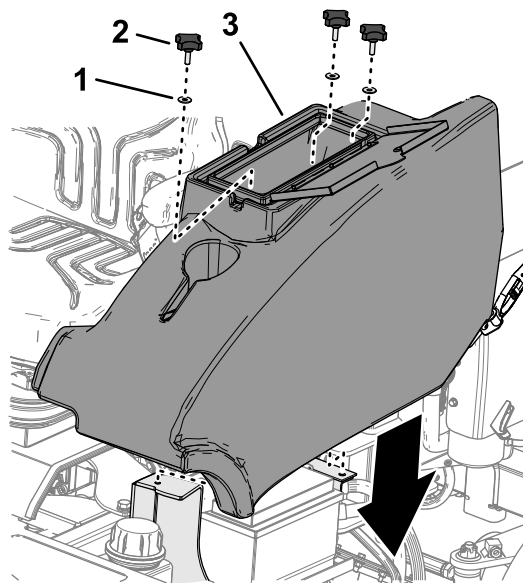

Figure 48
2. Assemble the storage compartment to the machine with the 3 knobs and 3 washers (Figure 48)